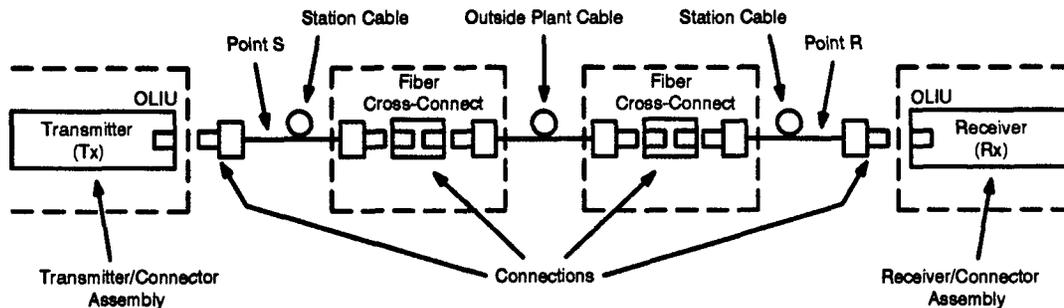

Figure 8-1. Optical System Interfaces (Point S and R)
1. Transmit and receive powers are references to points S and R as shown in Figure 8-1.